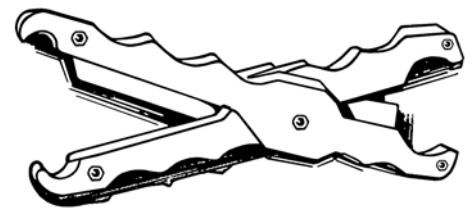

Figure 33: Fuse puller
- Before testing the components of a magnetic starter, be sure to turn off the manual disconnect switch and/or take out the fuses ahead of the magnetic starter. Always be aware that there may be more than one power source, and use proper fuse pullers (Figure 33).